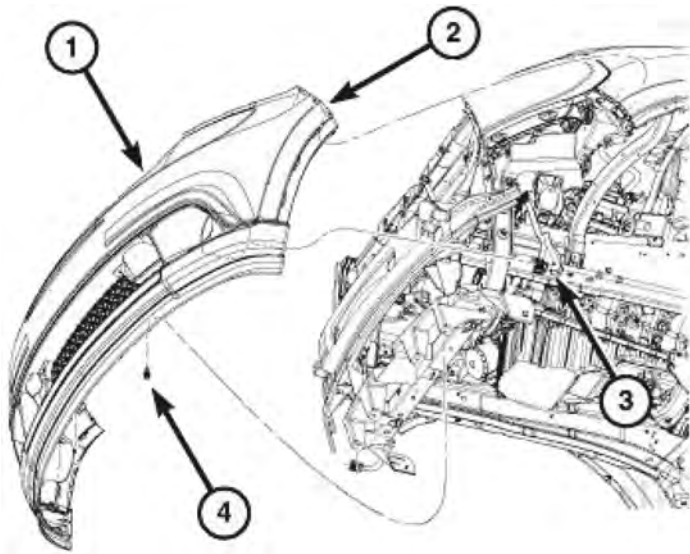

FIG. 2
- C. Remove the four lower retainers (4). (Fig. 2)
- Release the integral latches at the wheel well openings (2) and the radiator grille assembly.
- Disconnect the fog lamp electrical connectors (3), if equipped.